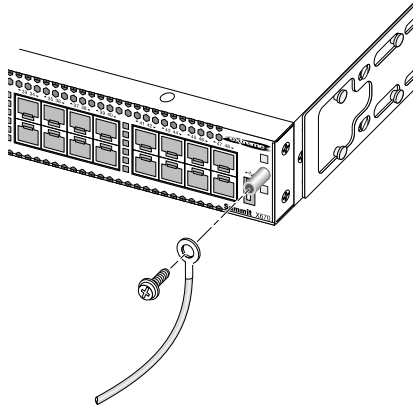

Figure 290: Grounding a Summit X670 Series Switch
- c Insert the provided M4 screw through the ring terminal and into the grounding stud on the front of the switch (see Figure 290: Grounding a Summit X670 Series Switch on page 316).